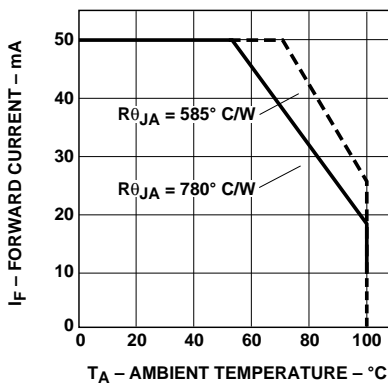

Figure 4. Maximum Forward Current vs. Ambient Temperature for 5 mm Lamps. Derating Based on  $T_{JMAX} = 130^\circ\text{C}$ .
1. Derate linearly as shown in Figure 4.